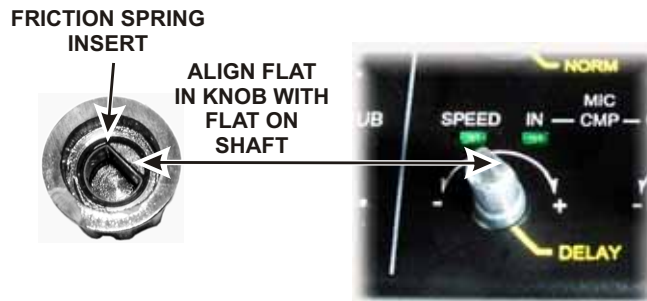

Figure 44. Mounting Friction Knobs.
□ Press small knobs on the four controls under the left end of the LCD: SHIFT/LOW, HI/WIDTH, SPEED/MIC and CMP/PWR. These knobs are all the same size. The four controls are encoders that rotate continuously, so the knobs have no index marks. The knobs are held in place by a friction spring as shown in Figure 44. Align the flat in the knob with the flat on each shaft before pressing each knob in place. In addition to the rotating encoder, each knob has a switch that is actuated by pressing the knob toward the panel. You will feel the switch action when you press each knob onto the shaft.